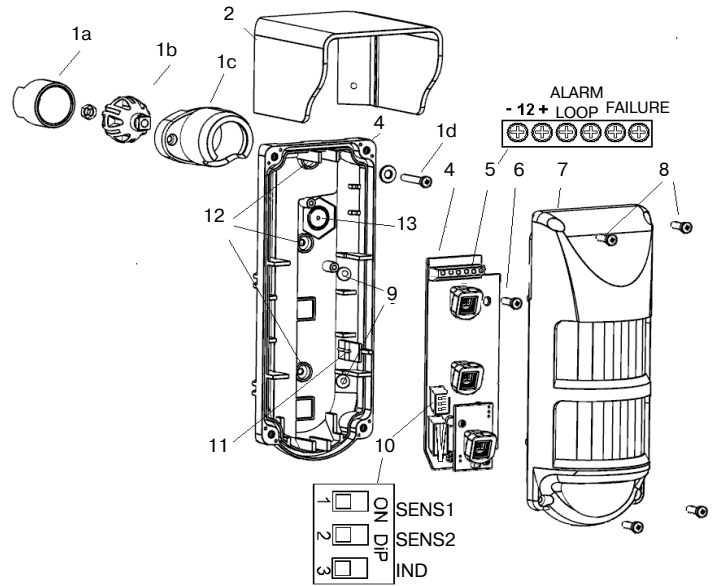

Figure 1 - The Detector Layout
5.1 The Detector (Figure 1) consists of base (3), PCB (4) and cover (7). Swivel bracket (1) and weather shield (2) are available. The cover is fixed to the base by four screws (8) with a sealing gasket. The PCB is fixed on the base by means of latch (11) and screw (6). Before mounting the detector the cover and the PCB should be separated from the base.
7.1 After assembling and installation, set switches «SENS1», «SENS2», «IND» (Figure 1, pos. 10) to «ON» position, replace the cover and perform test activation of the detector.
Sensitivity of the detector is selected by block of DIP-switches «SENS1» - «SENS2» (10) (see Figure 1).